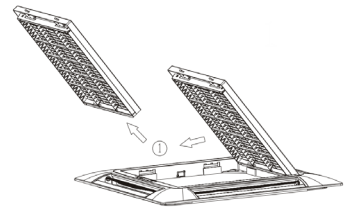

Fig 8
(1) Removing the grille
- To open the grille, rotate the grille lock counterclockwise from horizontal position to vertical position. (Fig 8)